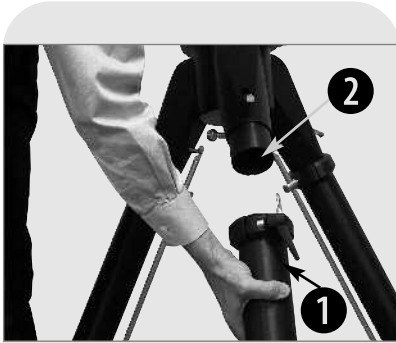

Fig. 7: Attach leg (1) to leg receptacle (2).
1. Slide a tripod leg into a leg receptacle (**Fig. 7**). Rotate the leg until the trigger release pin is next to the thruster bar latch (**Fig. 8**).